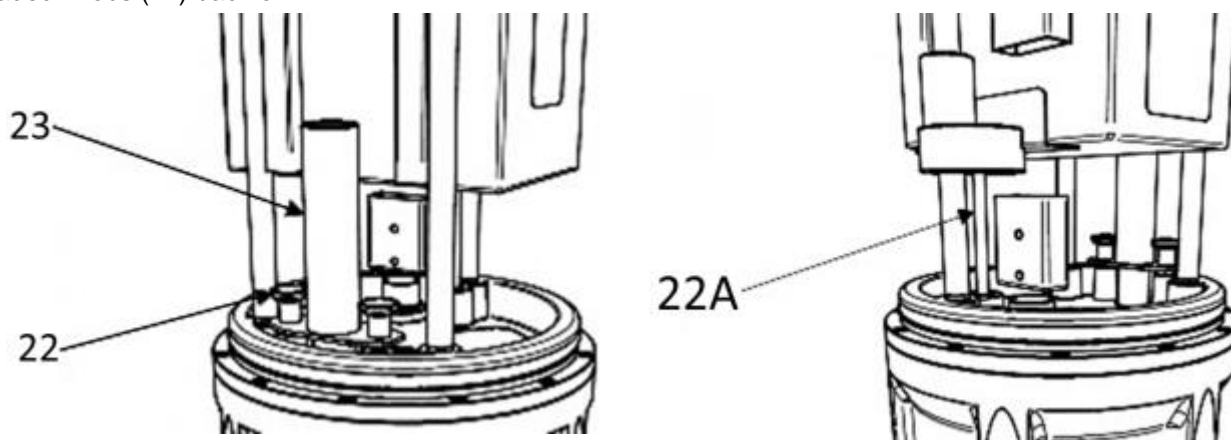

Fig.4
To insert the ballast (23) proceed as follows: (Fig. 4).